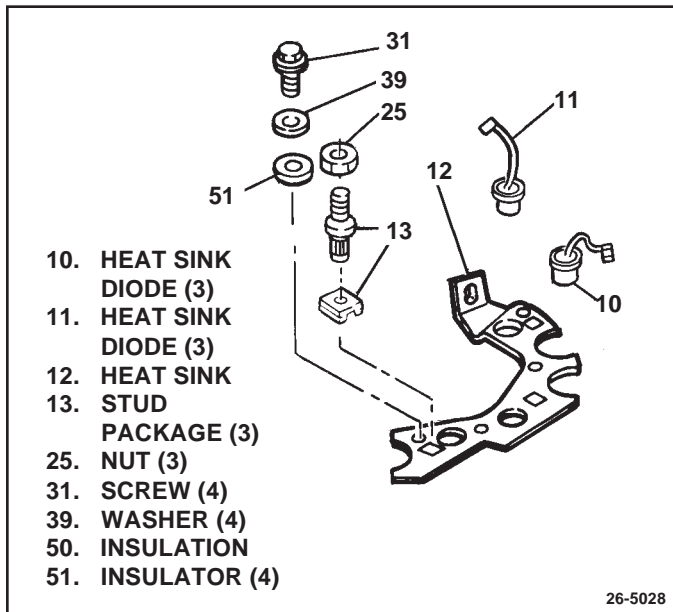
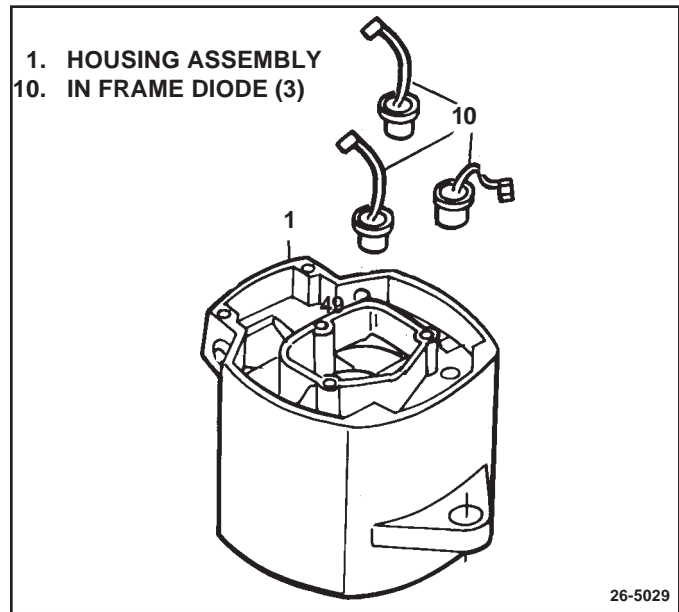

Figure 20. Removing Heat Sink Diodes
Figure 21. Removing Diodes from Housing
Replacing one or more diodes requires the use of an arbor press or vise, and special diode removal and installation tools. Such tools are available from various automotive tool suppliers. When removing a diode (11) from the heat sink (12), (See Fig. 20) press diode from heat sink using an arbor press or vise. When removing a diode (10) from the rectifier end housing (1), (See Fig. 21) use a diode puller. As much as 890 N (200 lbs.) of force may be needed to remove a diode.